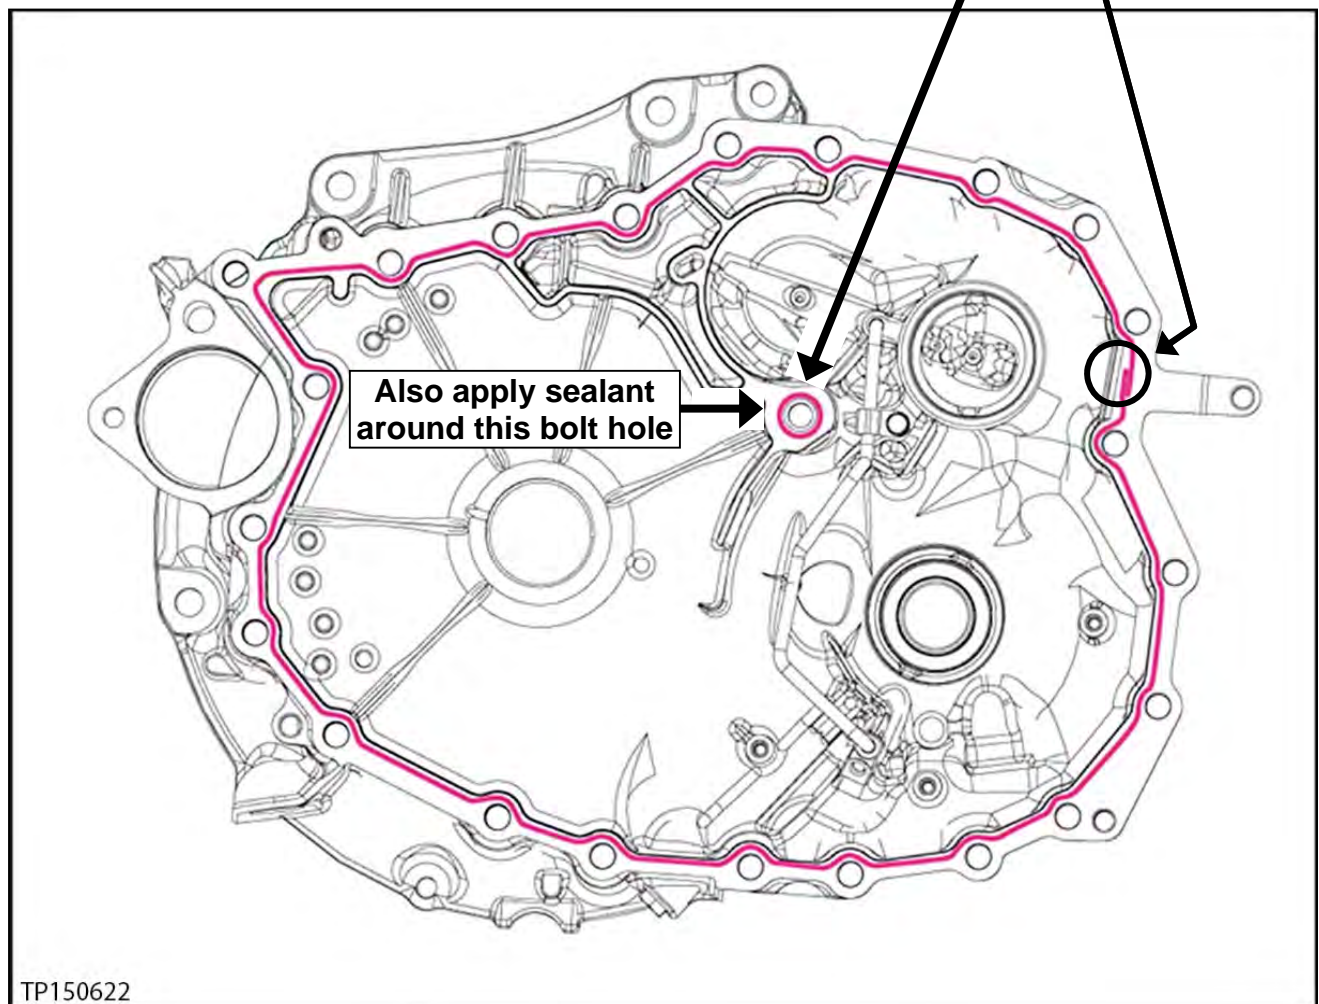

Figure 148
112. Apply one continuous, 2.0 mm (**0.8 inch**) diameter, bead of pink colored Loctite 5460 Sealant (Figure 148).
- Before sealant application, make sure the mating surfaces are clean from oil, dirt, old sealant, etc. (Figure 148).